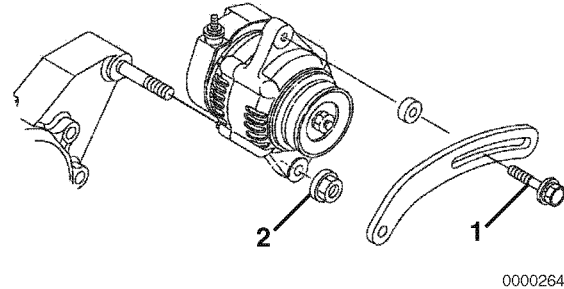

Figure 12-19
1. Position the alternator on the gear case. Loosely reinstall the nut (Figure 12-19, (2)) on the gear case stud and the V-belt adjuster bolt (Figure 12-19, (1)).